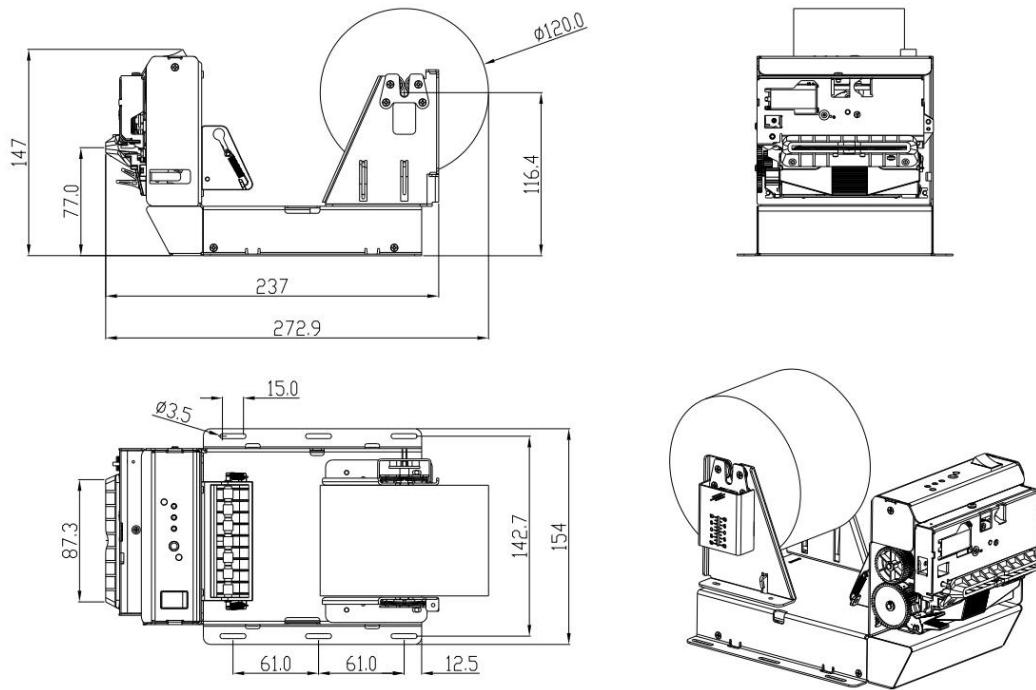

Figure.1-1 SP-EU802 KIOSK printer size
- Detail size as below Figure1-1: